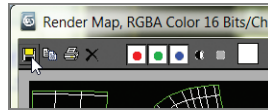

FIGURE 11.32
5. Save the UV layout image by clicking the Save Image icon in the Render Map dialog box, as shown in Figure 11.32. Save the UVs in the sceneassets/images folder.